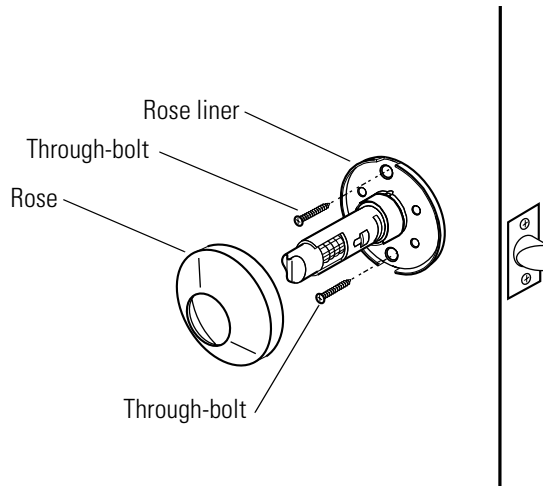

**Figure 3.26** Removing the two through-bolts
3. Unscrew the two through-bolts, as shown in Figure 3.26. Save the through-bolts.